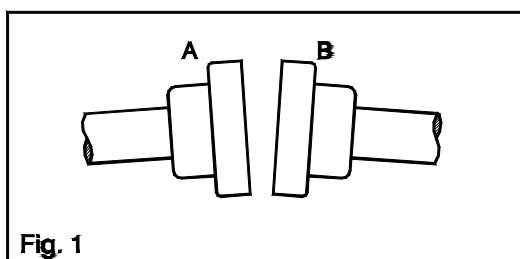
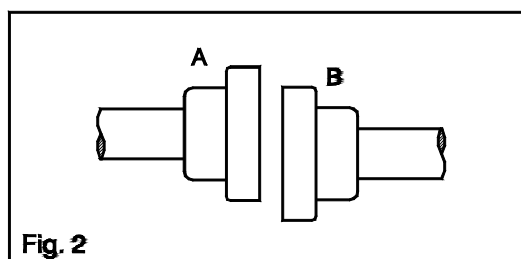

Fig. 1
Fig. 2
Errors of alignment are either angularity (Fig. 1) or eccentricity (Fig. 2) or a combination of both. 'GHE' series units are fitted with taper roller bearings on all input which are assembled with a predetermined amount of axial float.
**Errors of eccentricity** : These occur when the centre lines of shafts do not intersect (Fig. 2). When the misalignment is in the vertical plane, it can be corrected by altering the height of the either units by means of packing shims placed under feet.